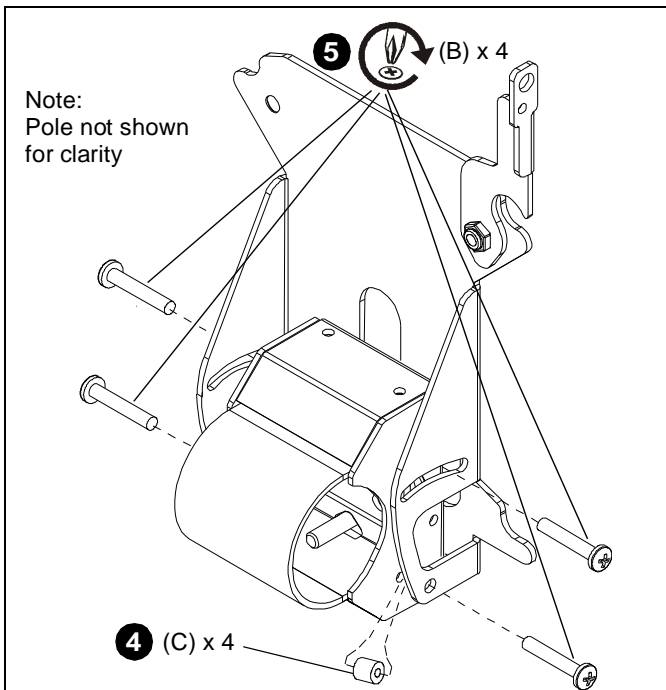

Figure 3
4. Insert four 1/2" x .194 x 1/2" nylon spacers (C). (See Figure 3)
5. Secure tilt bracket to FSP (A) using four 10-24 x 1" Phillips head screws (B). (See Figure 3)